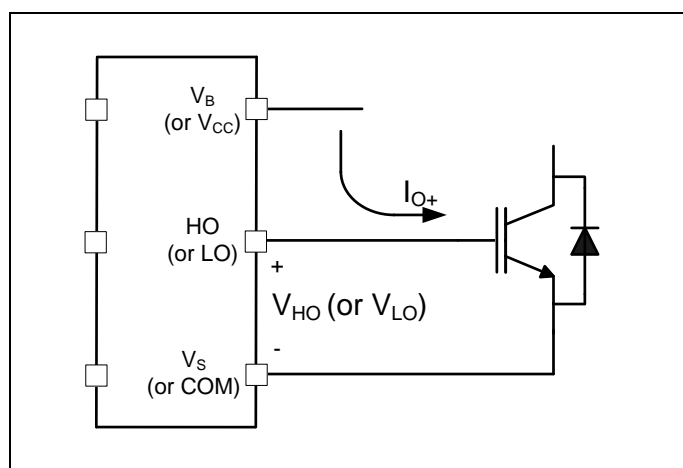
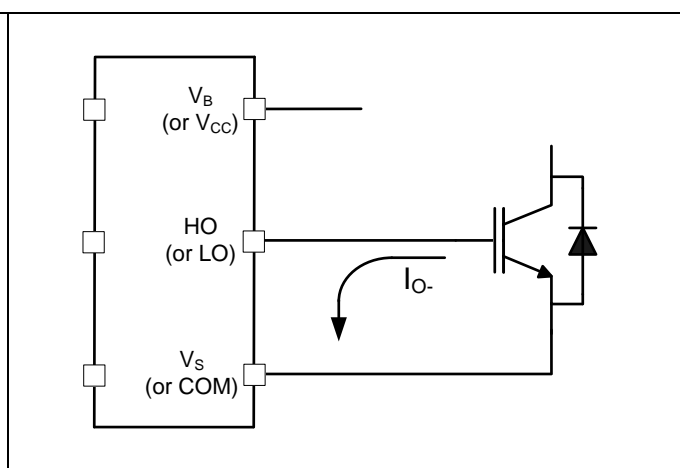

Figure 4 HVIC Sourcing current
Figure 5 HVIC Sinking current
The 2ED2109 (4) S06F (J) HVIC is designed to drive MOSFET or IGBT power devices. Figure 4 and Figure 5 illustrate several parameters associated with the gate drive functionality of the HVIC. The output current of the HVIC, used to drive the gate of the power switch, is defined as I_O . The voltage that drives the gate of the external power switch is defined as V_{HO} for the high-side power switch and V_{LO} for the low-side power switch; this parameter is sometimes generically called V_{OUT} and in this case does not differentiate between the high-side or low-side output voltage.